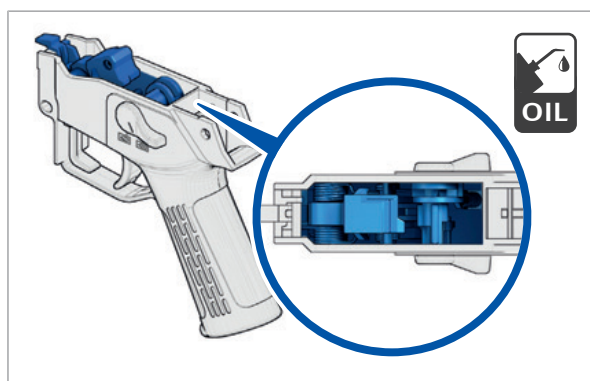

Fig. 118: Lubrication points on pistol grip
3. Lubricate lubrication points on pistol grip (Fig. 118).